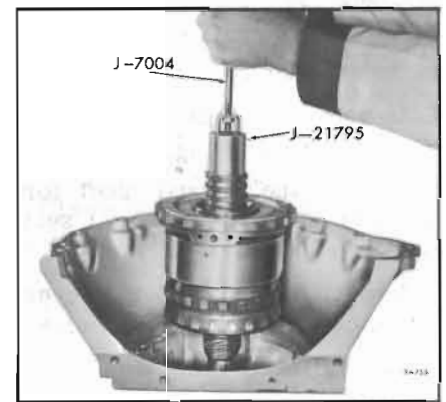

Figure 74-753
8. Install the complete gear unit assembly into the case. See Figure 74-753.